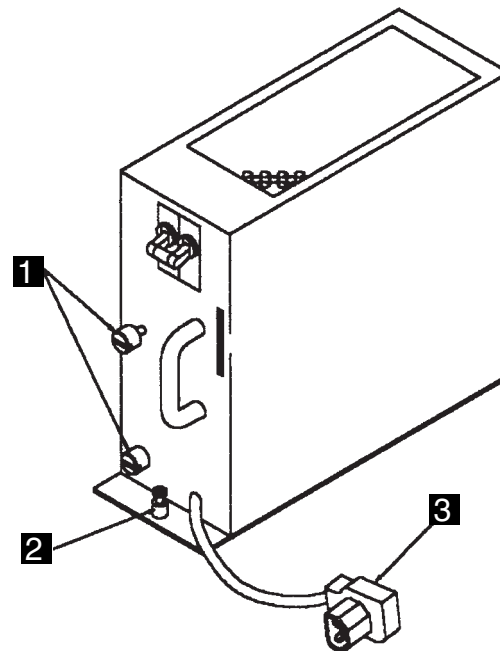

Figure 4-130. Line Adapter Power Supply
5. Using Figure 4-130, remove the power supplies (up to four power supplies can be installed) as follows:
4. Refer to Figure 4-130 on page 4-140. Re-install the removed power supplies as follows: